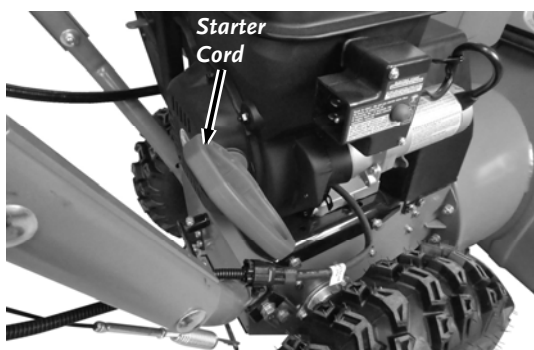

Figure 27
4. Slowly pull the Starter Cord until you feel resistance, then pull quickly (**Figure 27**). The Cord will recoil back into position when released.